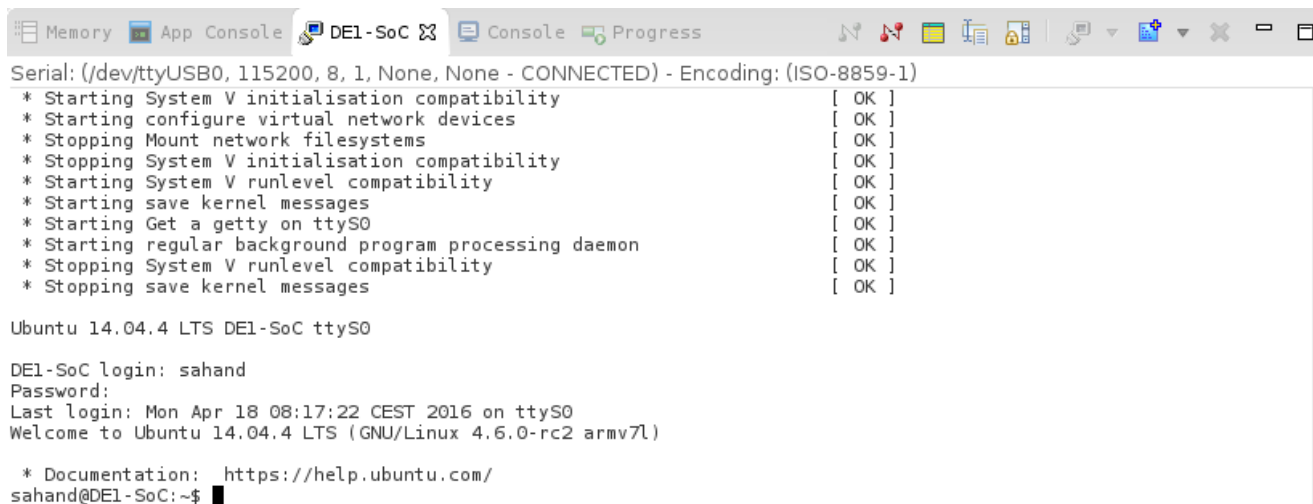

Figure 13-11. ARM DS-5 Serial Terminal Linux Prompt
75. You should see the linux login prompt. Log with the username and password we defined in 13.4.2.2. You should see something similar as Figure 13-11.